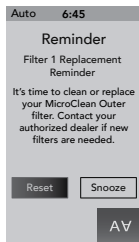

Figure 15.0d
19. **MicroClean Outer Filter Reminder:** This message will appear when the filter reminder time has expired (Figure 15.0d). Remove the MicroClean Outer filters for cleaning or replacement.